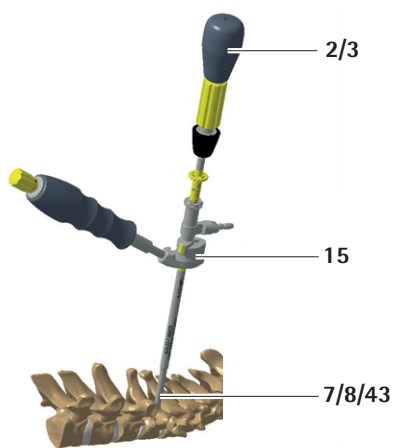

Fig. 9
- Position the guide **15** at the desired entry site and advance the drill **7/8/43** until the stop is reached, see Fig. 9.